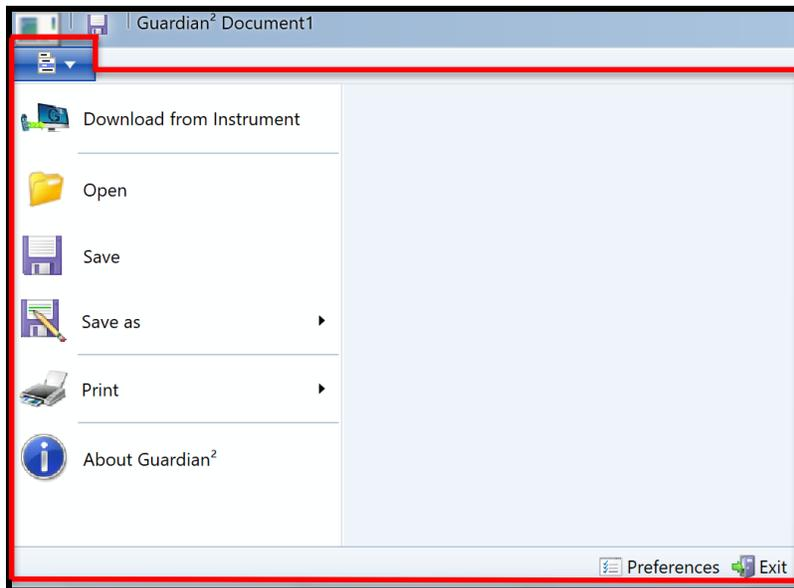

Figure 7
- File Control Menu (Figure 7)